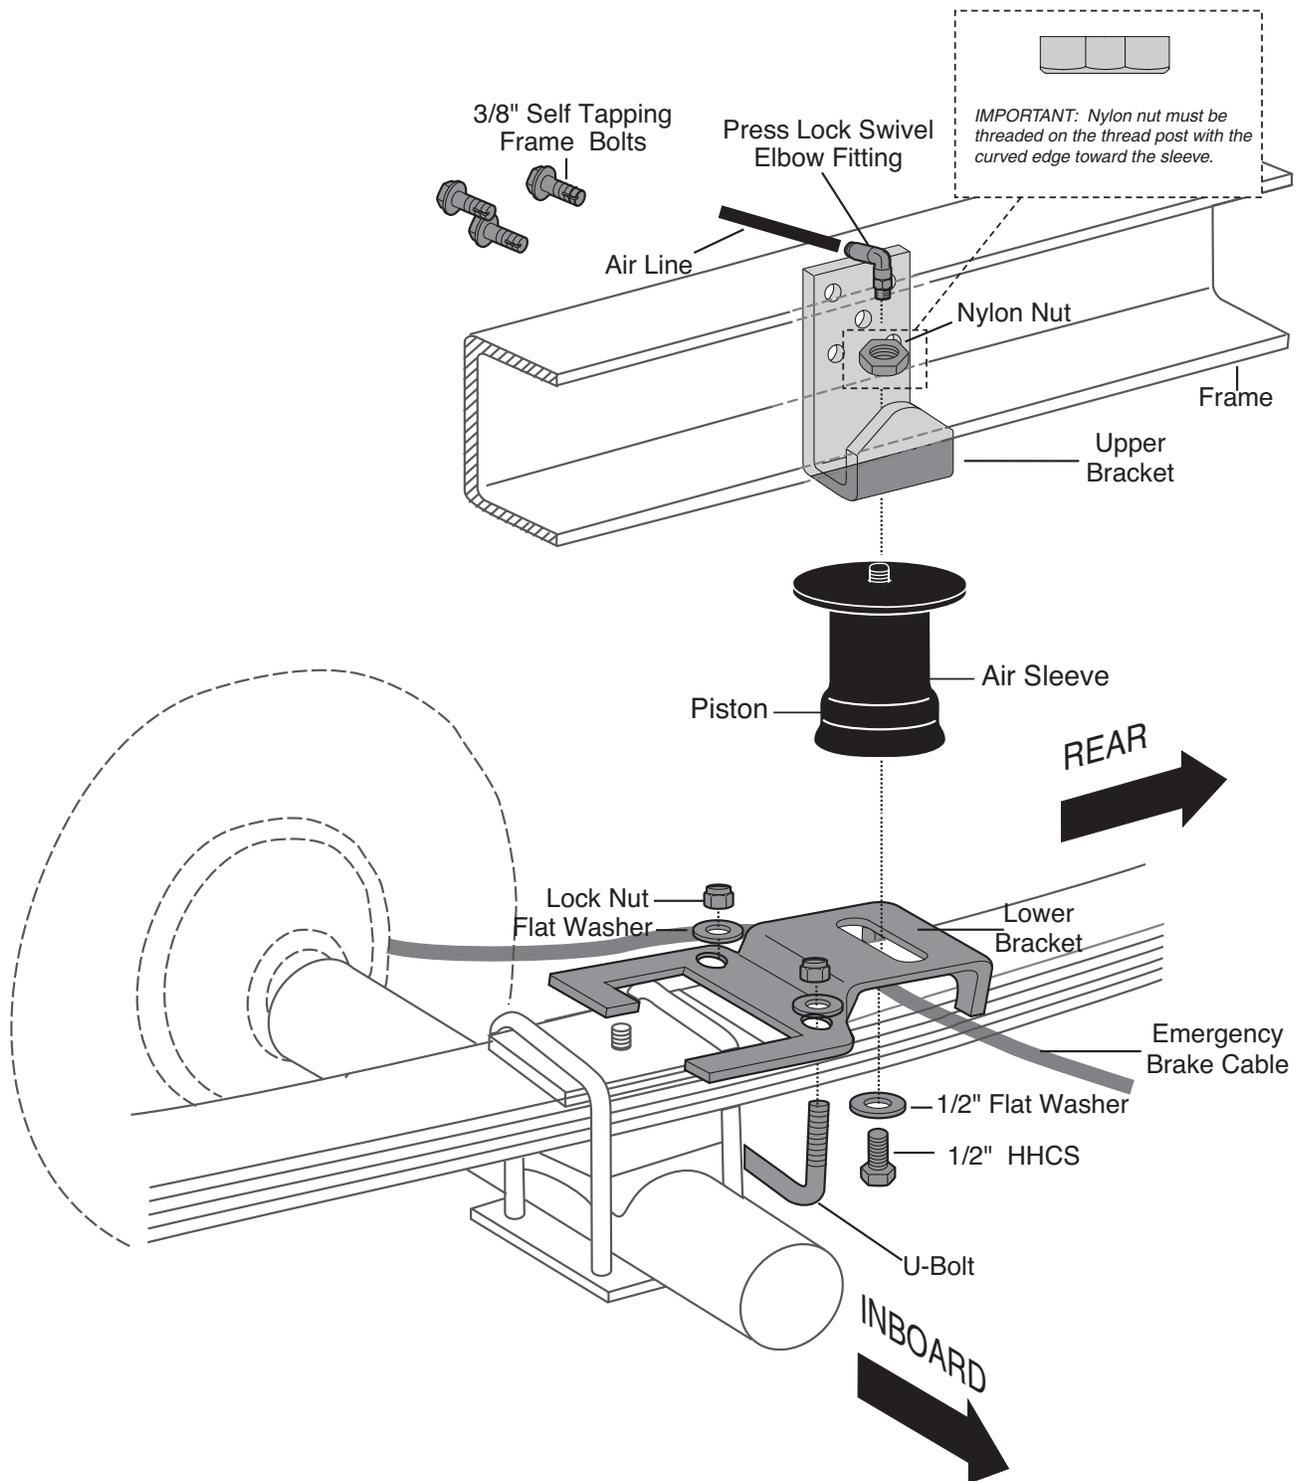
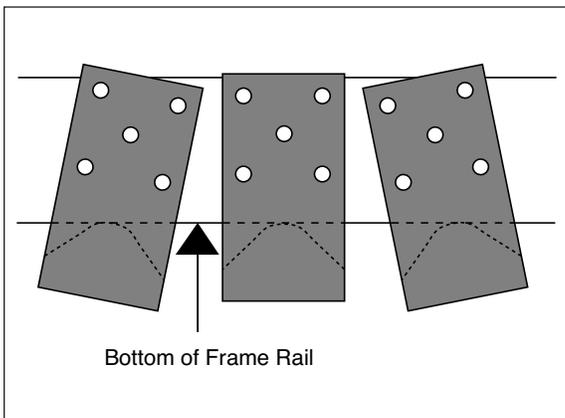

Figure 1
Figure 4
2. Thread the attached air fitting through the bottom of the J-bracket. Position the elbow towards the front of the vehicle for proper air line routing (Figure 1). Slide the provided nylon nut over the air fitting and onto the threaded post. Tighten the nylon nut hand tight to secure the bracket (Figure 4).
**NOTE:** The nylon nut must be threaded on the thread post with the curved edge facing toward the sleeve (Figure 1).
3. **LOOSELY** attach the lower bracket to the bottom of the sleeve using a 1/2" bolt and 1/2" flat washer (Figure 1). Set the assembly on the leaf spring.
**NOTE: The lower bracket will go OVER the U-bolts. Secure to the leaf springs using the provided U-bolts, flat washers and nylon lock nuts (Figure 1). Tighten to 20 ft.lbs.**
- Using the bracket as a template, center punch and drill three 5/16" holes. **The holes must be no larger than 5/16".** Attach the upper bracket using the Self-Tapping Frame Bolts and tighten to 15 ft.lbs. (Figure 1). **DO NOT OVERTIGHTEN.**